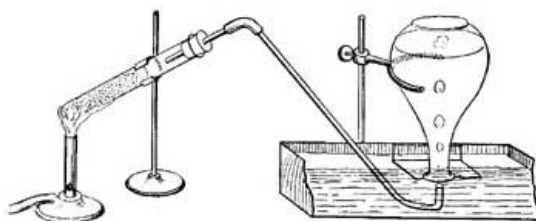

FIG. 22.—Preparing oxygen from potassium chlorate and manganese dioxide.
**36. How to Prepare Oxygen.** Mix a small quantity of potassium chlorate with an equal amount of manganese dioxide and place the mixture in a strong test tube. Close the mouth of the tube with a one-hole rubber stopper in which is fitted a long, narrow tube, and clamp the test tube to an iron support, as shown in Figure 22. Fill the trough with water until the shelf is just covered and allow the end of the delivery tube to rest just beneath the hole in the shelf. Fill a medium-sized bottle with water, cover it with a glass plate, invert the bottle in the trough, and then remove the glass plate. Heat the test tube very gently, and when gas bubbles out of the tube, slip the bottle over the opening in the shelf, so that the tube runs into the bottle. The gas will force out the water and will finally fill the bottle. When all the water has been forced out, slip the glass plate under the mouth of the bottle and remove the bottle from the trough. The gas in the bottle is oxygen.